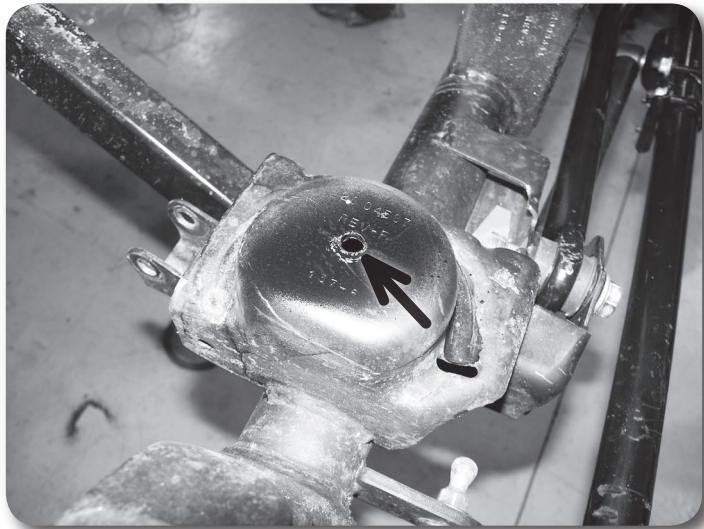

Figure 2
9. Make a mark in the center of the lower coil spring mount pad. Drill a 3/8" hole at the mark (Figure 2). This hole will be used to attach the provided bump stop extension to the axle after the coil spring is installed.